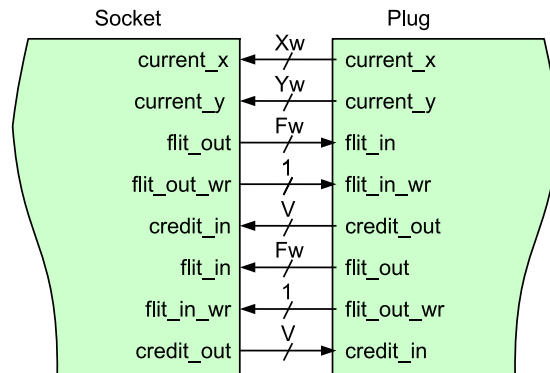

Figure 2.5: NI socket/plug interfaces.
This is the interface connection between Network-on-chip (NoC) router and the NoC interface adapter module (NI). Figure 2.5 shows this interface.